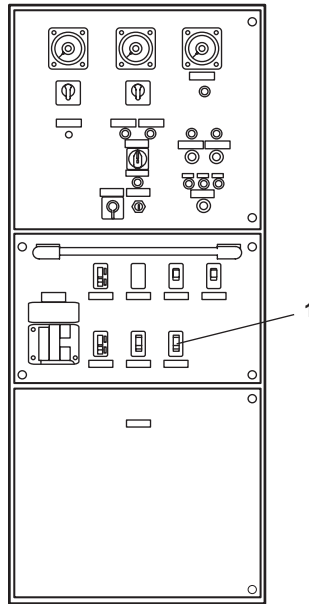

Figure 5. EDG Emergency Switchboard
1. At the emergency switchboard, set to OFF the FO XFER PUMP NO. 1 circuit breaker (figure 5, item 1).